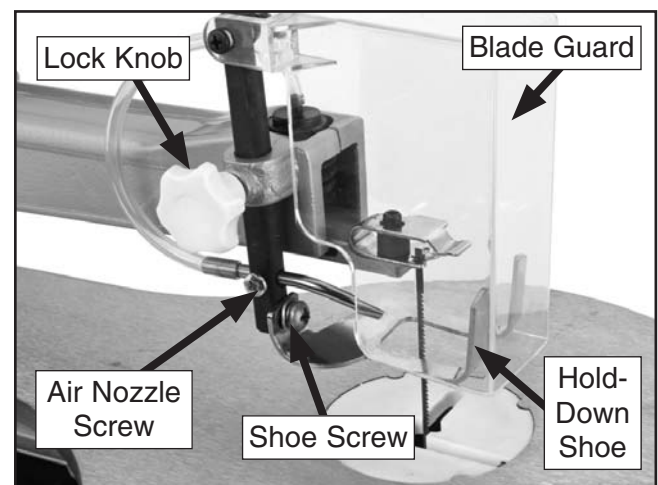

Figure 19. Hold-down shoe and blade guard assembly.
2. Loosen the lock knob and shoe screw shown in **Figure 19**, then lower the shoe until it touches the table.